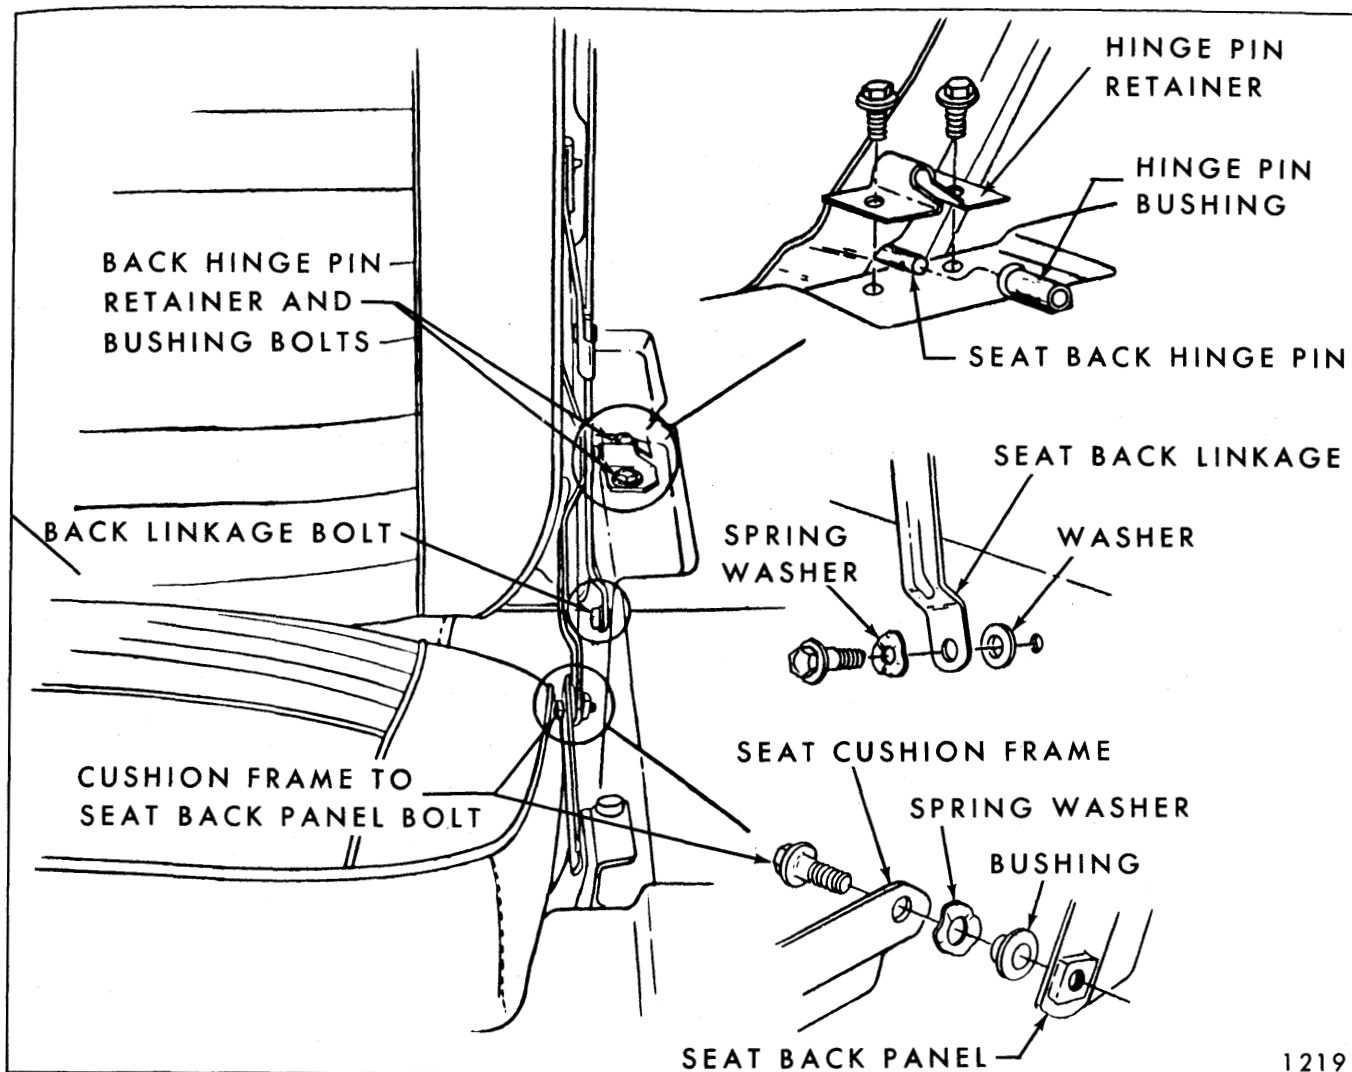

Fig. 10-75—Folding Third Seat
2. Remove seat back linkage-to-compartment side pan attaching bolt (Fig. 10-75) at both right and left sides of seat.
3. At left side of seat remove seat back hinge pin retainer (Fig. 10-75).
5. To install folding third seat and floor panel assembly, reverse removal procedure. Make sure a seat back hinge pin bushing is installed over both hinge pins. Also install flat washer between seat back linkage and compartment side pan and spring washer between linkage and bolt head (Fig. 10-75).
3. Remove seat cushion frame-to-seat back panel attaching bolt (Fig. 10-75) from both sides of seat; then, remove seat cushion assembly and place on a clean surface.
5. To install, reverse removal procedure. When installing seat cushion frame-to-seat back frame attaching bolts install bolt bushing and spring washer, as shown in insert of Figure 10-75.
4. To remove seat back panel assembly, remove seat cushion frame-to-seat back panel attaching bolt (Fig. 10-75); then, remove seat back panel with attached rear floor filler (at kick-up) panel from seat cushion.
5. To install, reverse removal procedure. Refer to inserts in Figure 10-75 for correct installation of linkage bolts, bushings and spring washers.